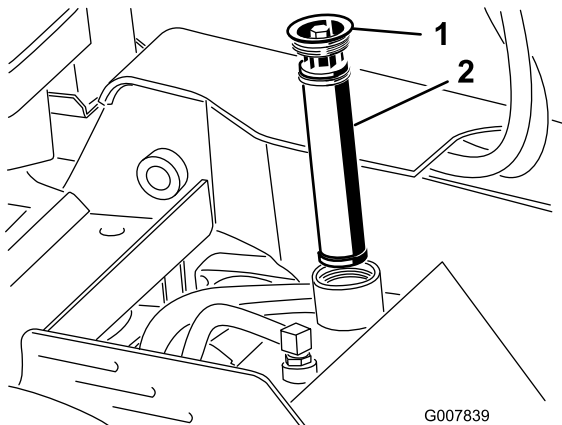

Figure 57
5. Remove and discard the old filter (Figure 57).
6. Install the replacement hydraulic filter and filler cap (Figure 57) and torque bolt on top to 110 to 140 in-lb (13 to 15.5 N-m).
6. Remove the hydraulic tank filler cap and filter (Figure 57).
12. Install the hydraulic filter and filler cap (Figure 57) and torque bolt on top to 110 to 140 in-lb (13 to 15.5 N-m).